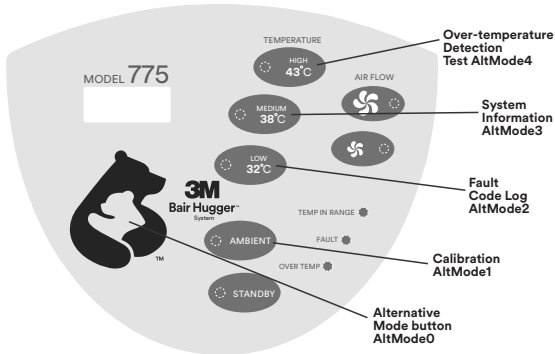

Figure 2. Location of Alternative Mode button
The warming unit has 5 alternative modes that allow access to the service and calibration utilities of the warming unit (see Figure 2 on page 7).
To enter one of the *alternative* modes, press the *Alternative Mode* button in combination with one of the operating mode buttons, also located on the front panel. Figure 2 indicates which keys must be pressed to enter each of the 5 *alternative* modes. When the correct combination of keys is pressed, the display reads "Hold for AltModeX," where "X" represents the selected *alternative* mode.
- Press the *Alternative Mode* button (see Figure 2. Location of Alternative Mode button on page 7) and the *Ambient* button simultaneously for 3 seconds. The warming unit is now in *Calibration* mode. In this mode, the warming unit performs the following tasks:
4. With the warming unit in *Ambient* mode, press the *Alternative Mode* button (See Figure 2. Location of Alternative Mode button on page 7) and the 43°C button simultaneously for 3 seconds. The warming unit is now in the *Over-Temperature Detection* Test mode. In this mode, the warming unit performs the following tasks:
2. Press the *Alternative Mode* button (Figure 2. Location of Alternative Mode button on page 7) and the 32°C button simultaneously for three seconds. The warming unit is now in Fault Code Log mode. In this mode, the warming unit performs the following tasks: